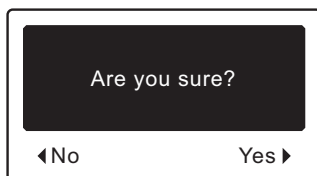

FIG. 79
4. Press the SELECT (O) button. The screen shown in Figure 79 will appear.